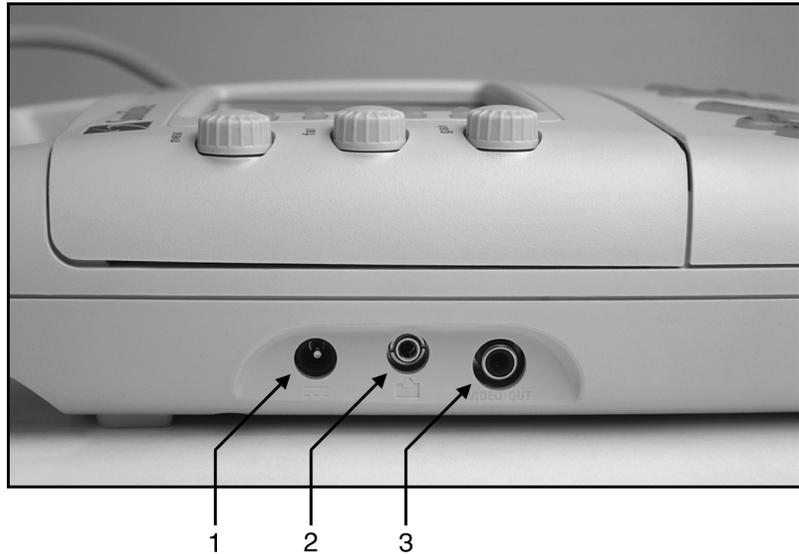

Figure 4.3 System Connections
3. Connect the AC power adapter to the system AC line voltage receptacle on the upper left side of the system (Figure 4.3).